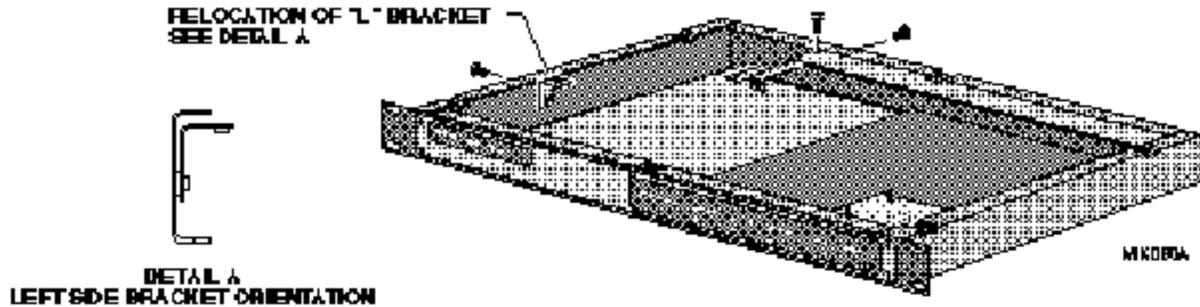

Figure 5. Relocation of "L" Bracket
5. Remove the "L" shaped bracket supporting the Back Panel PCB. Relocate this bracket to the left side of the chassis as shown in Detail A and secure using the phillips screw supplied in the ACG Option Installation Kit. (See Figure 5.)